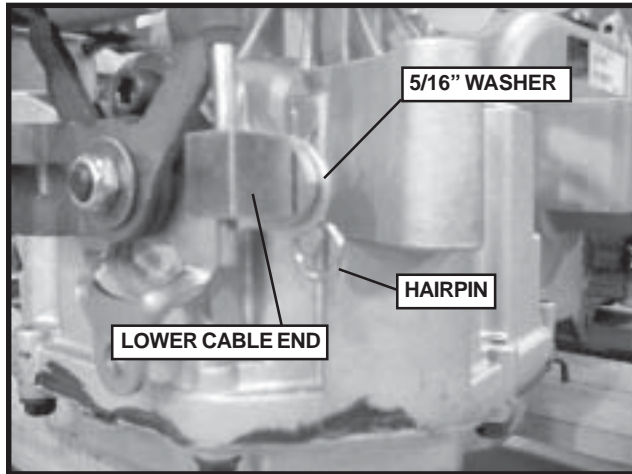

FIGURE 7
1. Thread the new lower cable end, Part No. 109334, onto the cable. The counterbored end must go first and the swivel threaded all of the way onto the cable until it bottoms out. The unthreaded portion of the cable will go into the lower cable end approximately 1/8". Repeat on the other side. See Figure 7.
2. Reinsert the lower cable end thru the IZT arm and reinstall the washer and the hairpin. See Figure 7. Repeat on the other side.